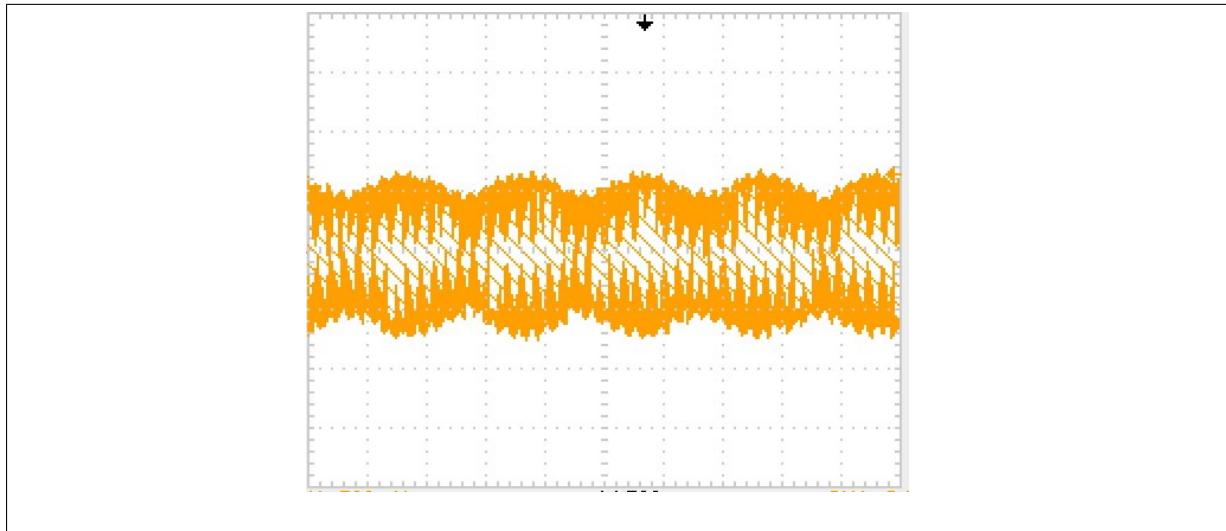

Figure 8: Oscilloscope photo of an AM modulated signal.
6. Observe the signal between JP30 and GND. You should see an amplitude modulated (AM) 27.000 MHz signal as shown in Fig 8. Set your oscilloscope time scale to 500 μ s/div. Set the ACQUIRE mode to Peak-detect. This setting allows the oscilloscope to capture the peak of the RF signal even though the sampling rate of the oscilloscope is not enough to capture the RF signal itself. Increase the signal amplitude of the signal generator until